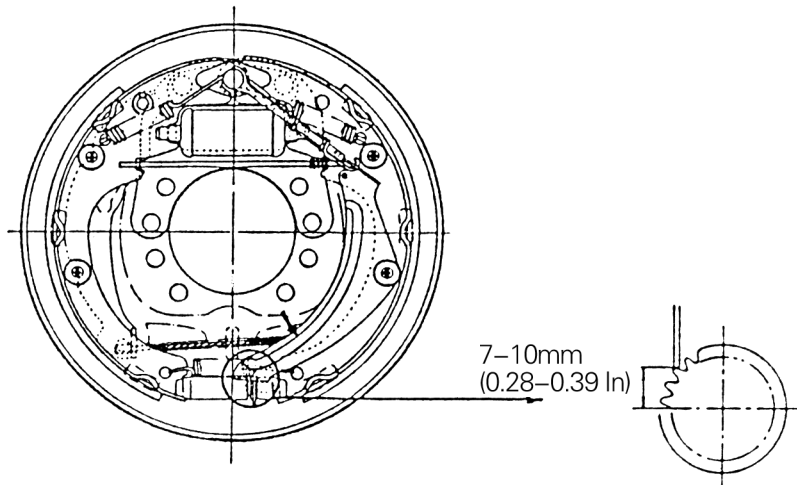
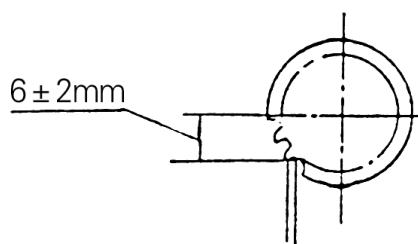

Fig. 8-26
Fig. 8-27
(1) Make the brake shoe diameter approach the specified mounting size, and pull the adjusting lever with your finger along the arrow marks as shown in Fig.8-26 to turn the adjuster gear. When removing off your finger, the adjusting lever should return to its original position without rotation of the adjuster gear.
(2) If the adjuster fail to do the above operation when the adjusting lever is pulled, proceed with the following inspection:
b) Check to see if the adjusting lever and adjuster gear are correctly arranged. (See Fig.8-26 for 2 ton trucks and Fig.8-27 for 3 ton and 3.5 ton trucks) If necessary, replace them. Also check if the adjusting lever is in contact with the gear.